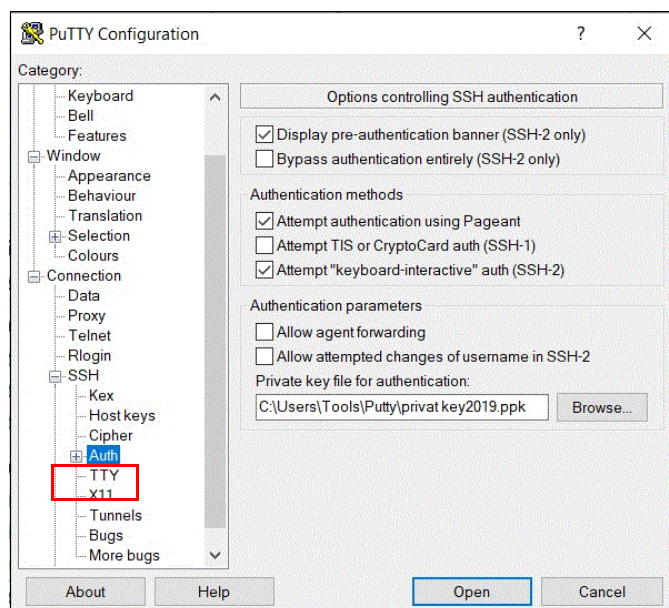

Figure B-10 SSH protocol Version 2
4. In the Category window, on the left side of the PuTTY Configuration window (see Figure B-10), select **Connection** → **SSH** to open the PuTTY SSH Configuration window. In the SSH protocol version section, select **2**.